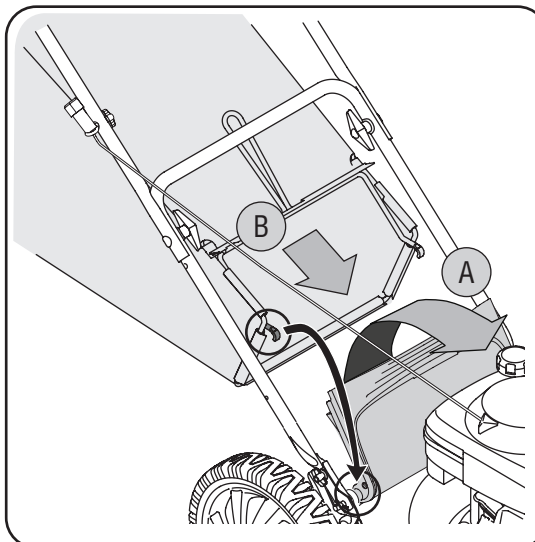

Figure 3-7
- Place grass catcher on the pivot rod. Let go of discharge door so that it rests on the grass catcher. See Figure 3-7.
To remove grass catcher or convert to a mulcher (if equipped), lift rear discharge door on the mower as shown in Figure 3-7. Lift grass catcher up and out of the pivot rod. Release rear discharge door to allow it to close rear opening of mower.